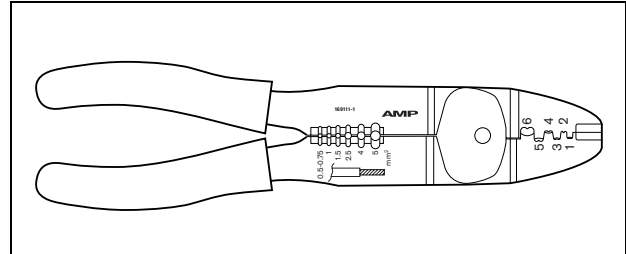

figure 16.10: Tyco AMP 169111-1 pliers
- Tyco AMP 169111-1 pliers (see figure 16.10)